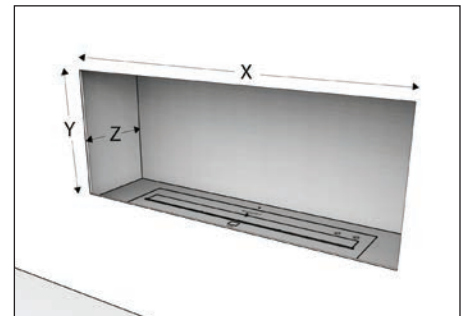

Fig.1
A. FIREBOX MEASUREMENTS FOR "WITHIN A FIREBOX" INSTALLATION (Fig.1)